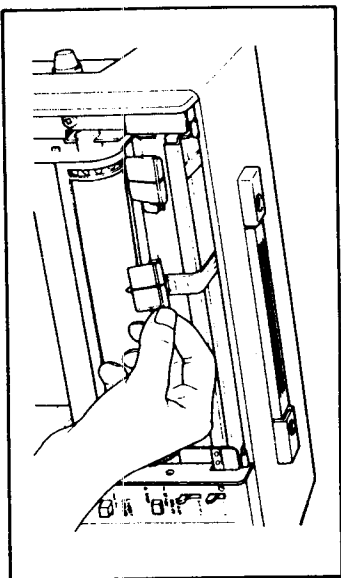

Figure 3-12.
2. Install each pen cartridge with the colored line forward (See Figure 3-12).